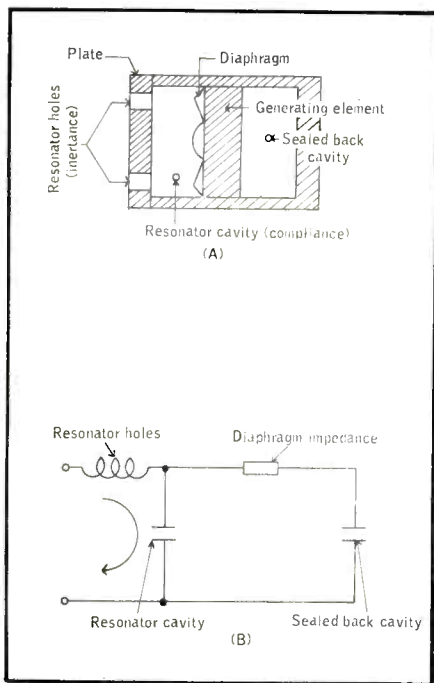

Fig. 5. The Helmholtz resonator—(A) mechanical form, and (B) its analogous electrical circuit.
Additional support is given to the response from 8000 Hz out by the use of a Helmholtz resonator. This resonator fits into the equivalent circuit of the microphone acoustic system as shown in Fig. 5.
The Helmholtz resonator is formed physically in the front of the microphone as shown at (A) in Fig. 5. The inertance of the holes (equivalent to inductance), resonates with the compliance of the air volume (equivalent to capacitance), between the retainer and diaphragm, as shown at (B).